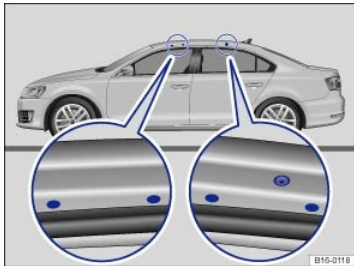

Fig. 94 Attachment points for the base carrier and roof rack.
The front and rear attachment points for the base carrier are on the underside of the roof frame ⇒ Fig. 94 (left magnified view). There are also mounting holes ⇒ Fig. 94 (right magnified view).
- Secure the roof rack base carrier only at the attachment points shown in the illustration ⇒ Fig. 94.